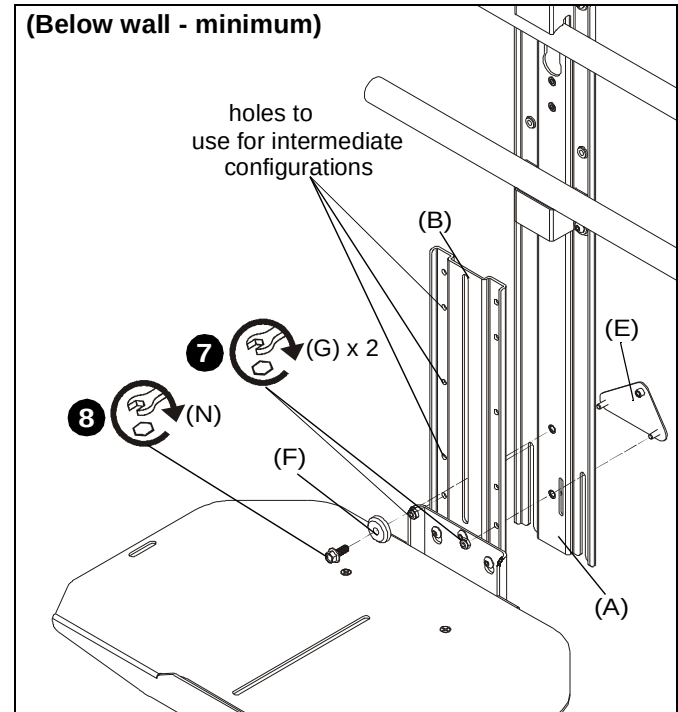

**Figure 5**
5. (For **maximum extension**) Use #10-32 x 3/8" button head cap screw (P) and small washer (J) to secure adapter plate (E) to main bracket (B). (See Figure 5)
6. (For **maximum extension**) Use two #10-24 lock nuts (G) to secure upright bracket (A) to main bracket (B) and adapter plate (E). (See Figure 5)